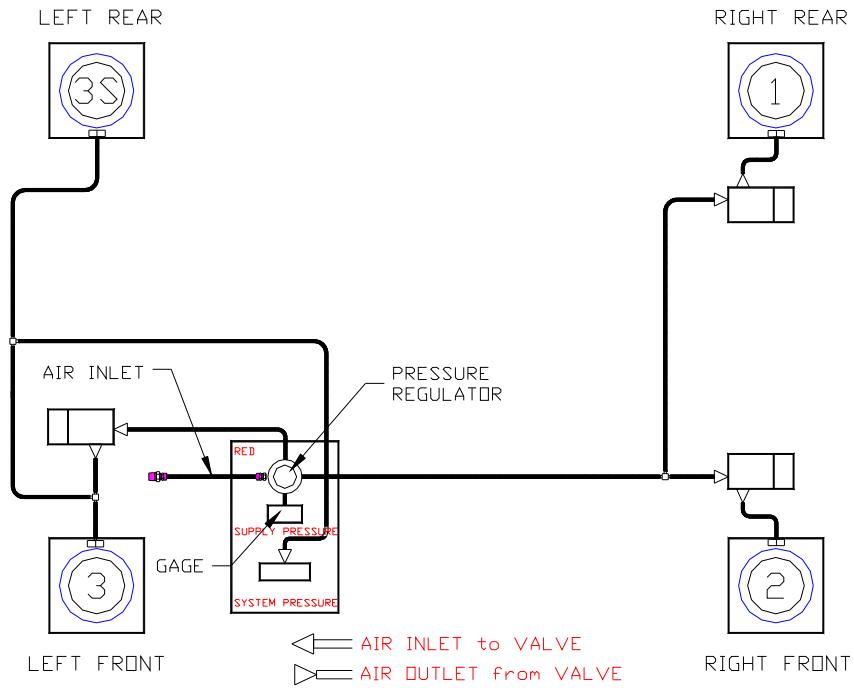

Fig 3a 9101/9102 Airline Schematic
1. Using the Umbilical Assembly (1/8"Odx10ft. polyurethane tubing and 1/4" NPT fitting), connect the pressurized air supply to the inlet of the Filter Regulator (as shown in Fig. 3a and 3b). The polyurethane tubing may be shortened by cutting with a razor blade. If additional pipe fittings are required to complete the connection at the pressurized air supply, these must be supplied by the user.